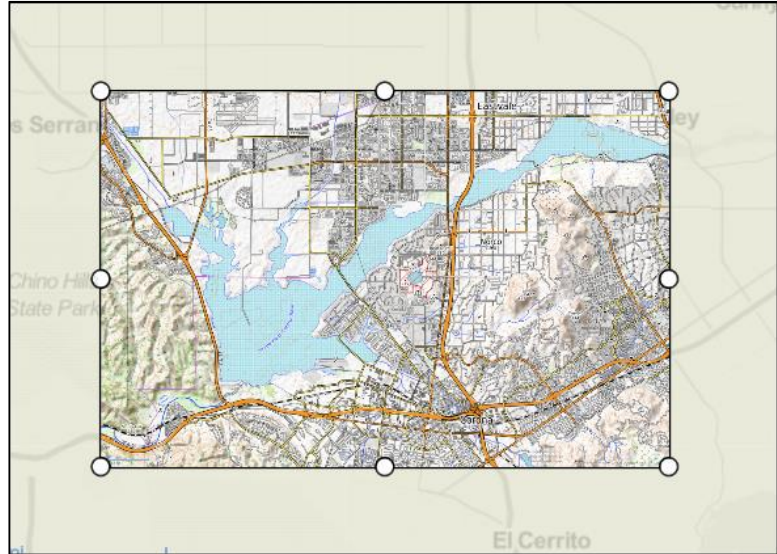

Figure 3. A raster map with its vertices
- As shown in Figure 3, a raster map consists of an image and a polygon with eight vertices along its perimeter.